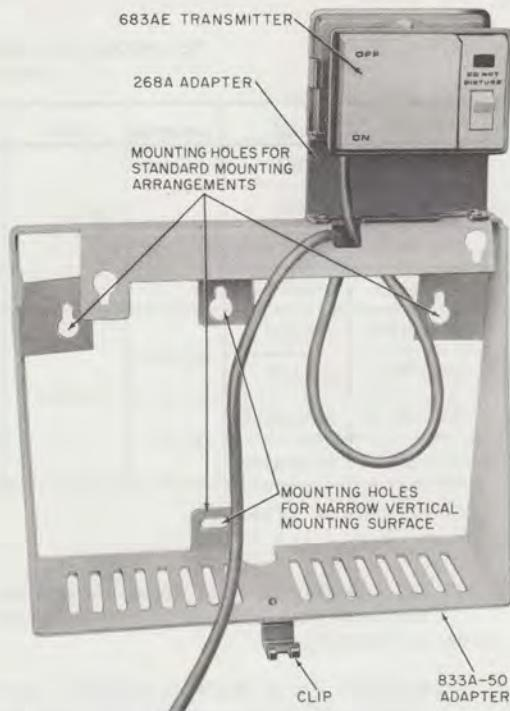
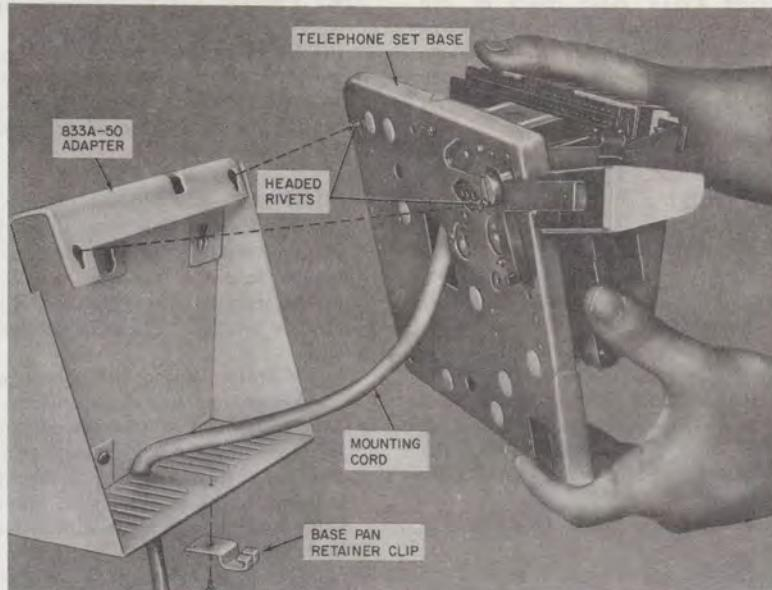

Fig. 3—833A-50 Adapter with 268A Adapter and 683AE Transmitter
Fig. 4—Mounting Telephone Set Base onto 833A-50 Adapter
3.02 All DM and EM (wall type) sets are shipped with an 833A-50 adapter, screw, and clip (Fig. 3) which are used for mounting the telephone set to a vertical surface. Install the 833A-50 adapter and telephone set as follows.
(1) Mount the adapter to the wall or vertical surface as shown in Fig. 3, using appropriate fasteners (Section 080-720-105). If the mounting cord is to be dressed down the wall, it is necessary to pass the cord through the notch in the adapter before final attachment of the adapter to the wall (Fig. 4). If the cabling enters through the wall, the mounting cord may be contained within the adapter.
- (2) Remove faceplate and housing from telephone set.
- (3) Hang the telephone set on the adapter from the headed rivets that protrude from the base pan (Fig. 4).
- (4) Secure the telephone set base with the clip, and screw at the bottom of the adapter (Fig. 3).
- (5) Install telephone set options (see paragraph 3.05).
- (6) Replace housing and faceplate.
(a) Mount 268A adapter onto 833A-50 adapter with two screws as shown in Fig. 3 with the tabs of the 268A adapter facing outward from the vertical surface. The 683AE-50 transmitter is secured by sliding the transmitter downward between the tabs on the adapter. The telephone set end of the transmitter cord enters the telephone set and is attached to the telephone set base at the small notch on the top edge of the base panel. The excess cord is stored in the 833A-50 adapter.